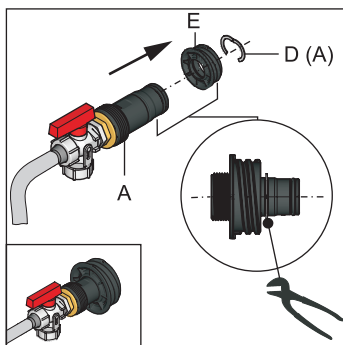

Fig. 8-3 Completing the combined filling and draining filling connection
- Insert the combined filling and draining filling connection in the threaded piece (Fig. 8-3, item E) and secure with the clamping piece (Fig. 8-3, item D).